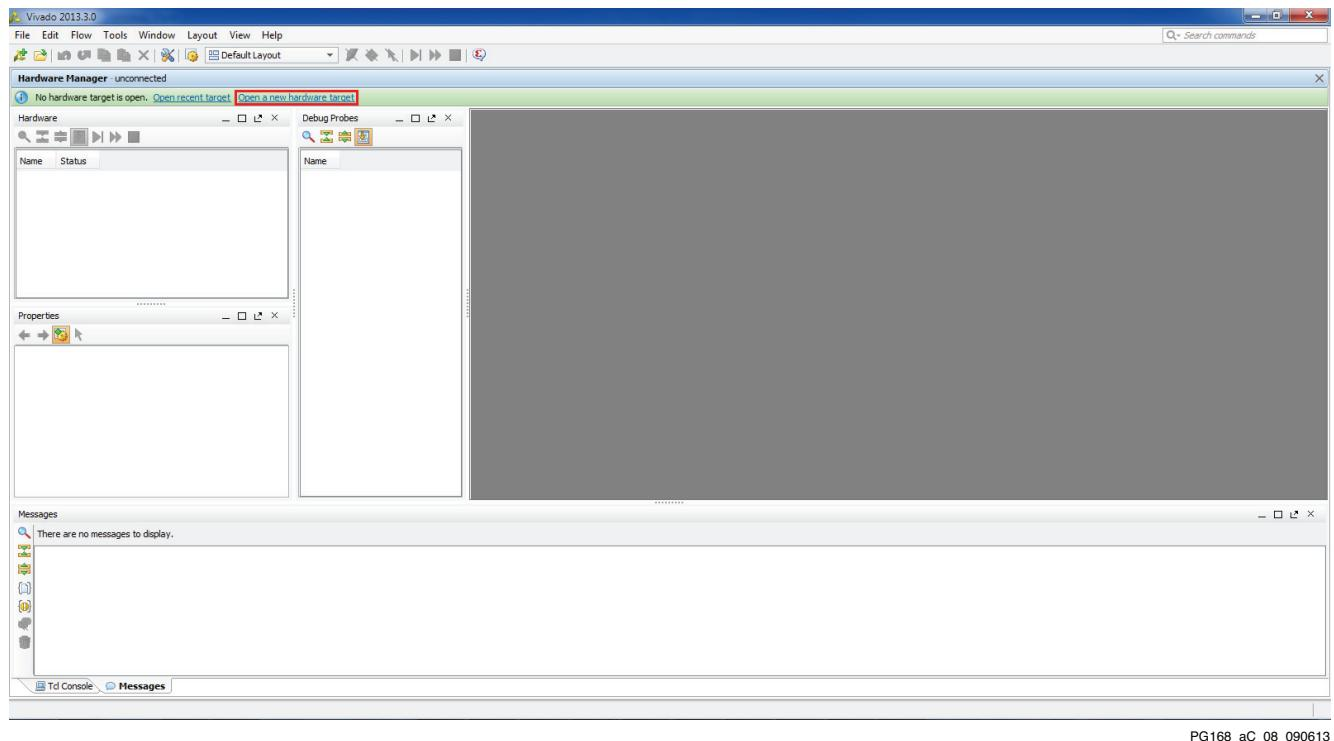

Figure C-8: Open a New Hardware Target
12. A new window appears, as shown in Figure C-8. Click **Open a new hardware target**.